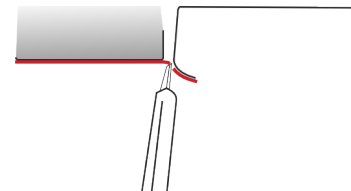

Figure 36
- › After the cut, 2 to 3 mm of the film (1 to 1½ in.) should be left over the edge of the vehicle parts. (FIG. 36)